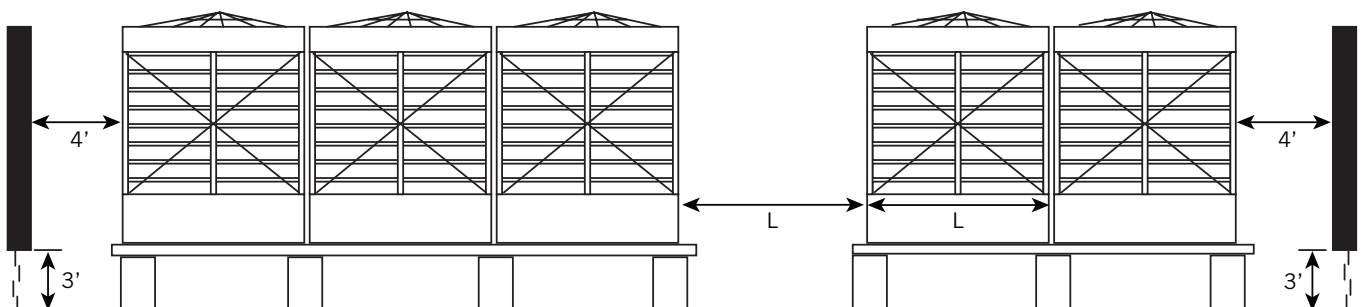

Figure 17. Elevation View of Recommended Enclosure
1. **Enclosure:** The bottom 3 feet of the well should be louvered a minimum of 50% net free area to allow air flow under the units as shown in **Figure 17**.